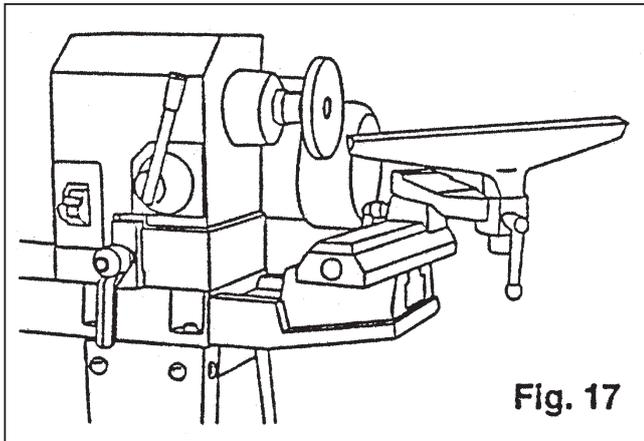

Fig. 17
1. The tool rest (1) can be used with or without the arm(2) .
2. To move the tool rest base (3), loosen the lock lever (4), and move the base to the right or left and back or front. Tighten the lever (4) when the tool rest base is in the desired position.
3. When using the arm (2), make the necessary adjustments using lock levers (5) and (6) to position the tool rest.
5. The tool rest can also be repositioned to the extension bed for use on outboard turnings. (Fig. 17)